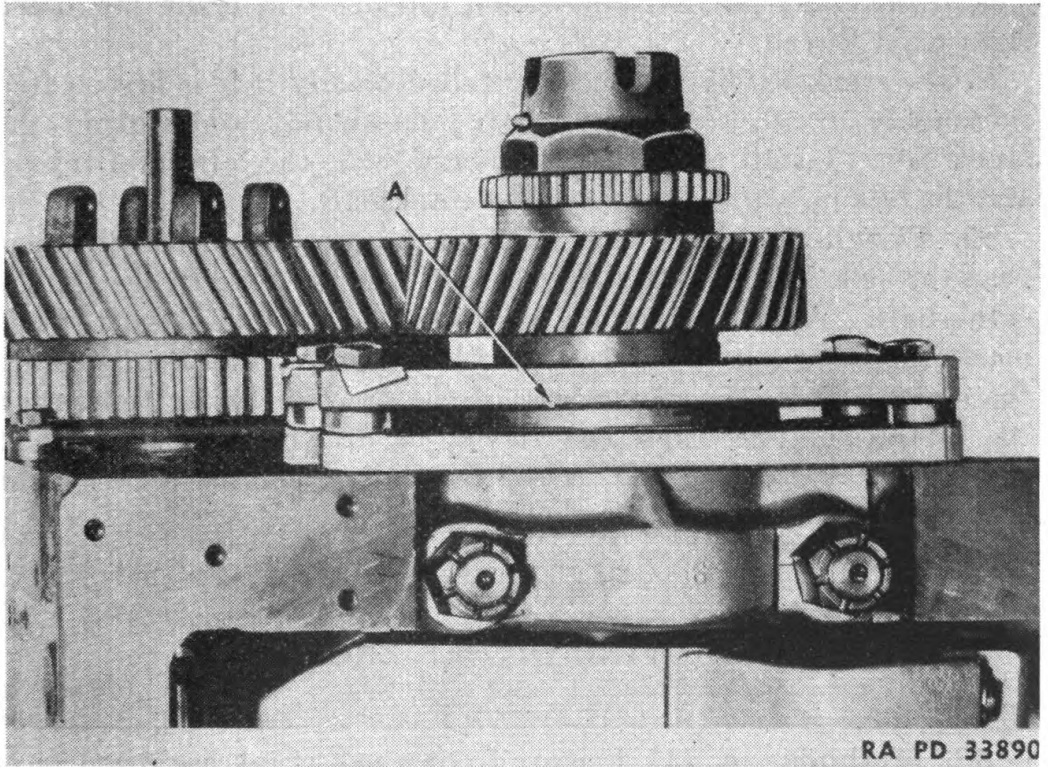

FIGURE 39.—Crankshaft thrust washer.
33. Thrust washer.—The bronze thrust washer (A) (fig. 39) should be installed with the chamfer around the bore toward the rear of the crankshaft.